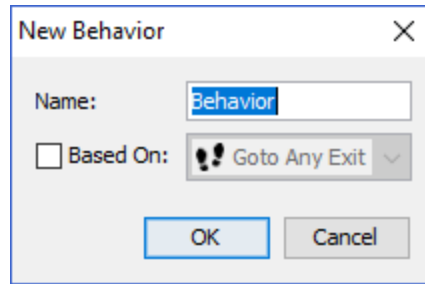

Figure 109. New Behavior dialog
1. Right click the **Behaviors** node from the Navigation View, and from the right-click menu, click **Add a Behavior**, which will open the New Behavior dialog shown in Figure 109.